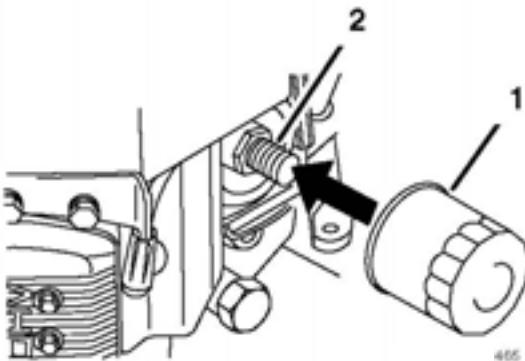

Figure 17
2. Remove the old filter **Figure 17**.
3. Apply a thin coat of new oil to the rubber gasket on the replacement filter. Install the replacement oil filter to the filter adapter, turn the oil filter clockwise until the rubber gasket contacts the filter adapter, then tighten the filter an additional 3/4 turn **Figure 17**.